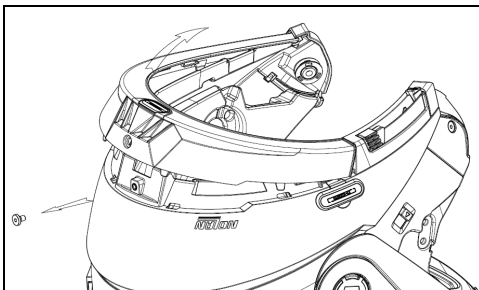

Fig. 7
- Completely remove the gasket as shown in Fig. 7; by doing so you also remove the padding.